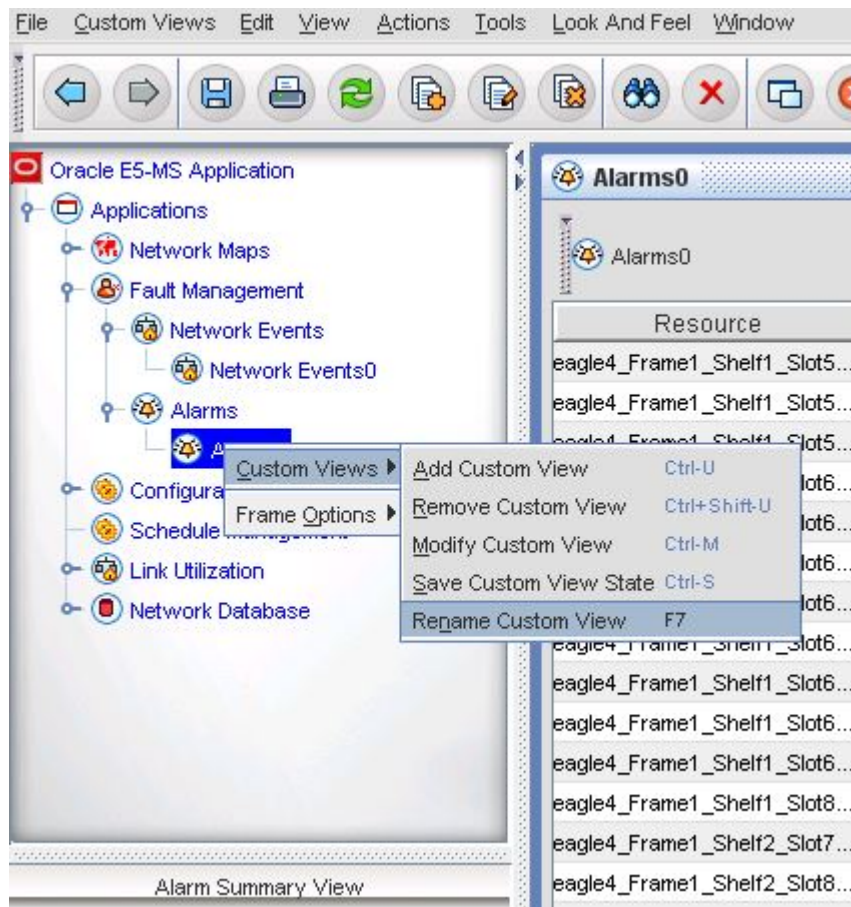

Figure 116: Rename a Custom View By Using Left Navigation Pane
- Right-click on the custom view node under the Network Events/Alarms node in the left navigation pane, and choose **Custom Views > Rename Custom View** as shown in Figure 116: Rename a Custom View By Using Left Navigation Pane.